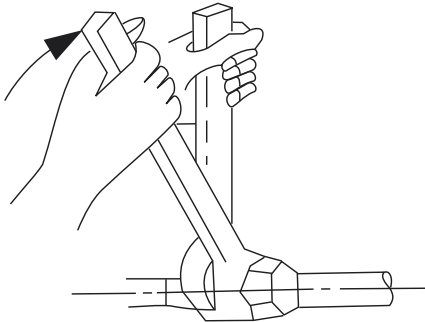

Fig. 22 - Tighten Flare Nut
7. Tighten the flare nut and finish the installation using two wrenches as shown in Fig. 22.